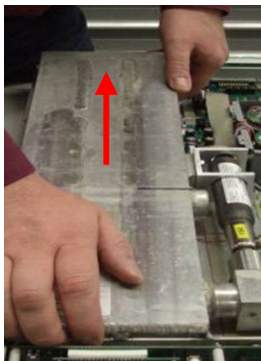

Fig. 94: Pulling out the tank
15. ➤ Lift up the tank in the rear section and carefully pull it out towards the rear (Fig. 94).